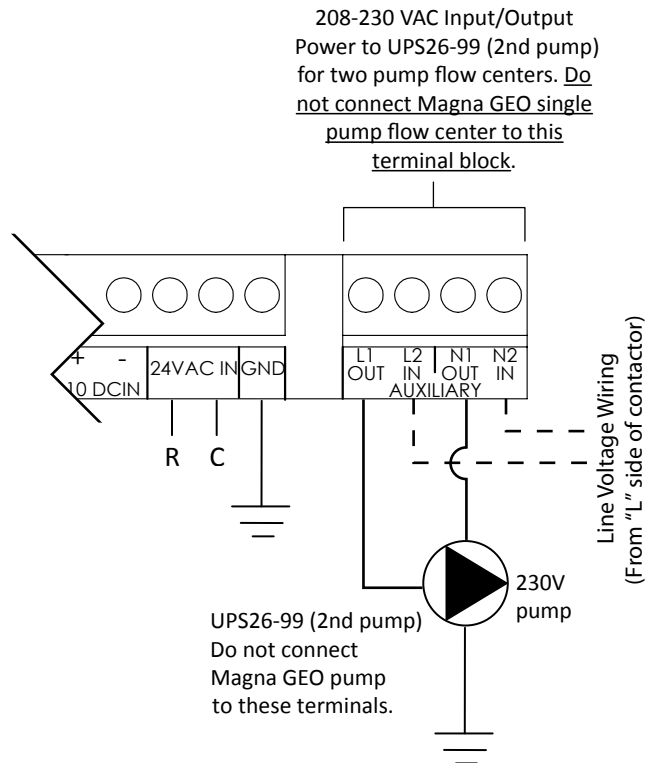

Figure 6: High Voltage to Second Pump
8. Complete high voltage wiring to second pump (if applicable). If a second pump is installed, the second pump must be wired to the Grundfos controller, so that the relay in the controller can engage/disengage the pump based upon heat pump operation (for example, first or second stage operation/flow rate). Refer to Figure 6 for wiring. Run high voltage wiring from the “L” side of the compressor contactor to the Grundfos controller terminals. Run wiring from the controller to the second pump. Wiring must meet applicable code requirements, including requirements for wire protection, such as conduit. Wire size must be at least 14 AWG copper conductor.